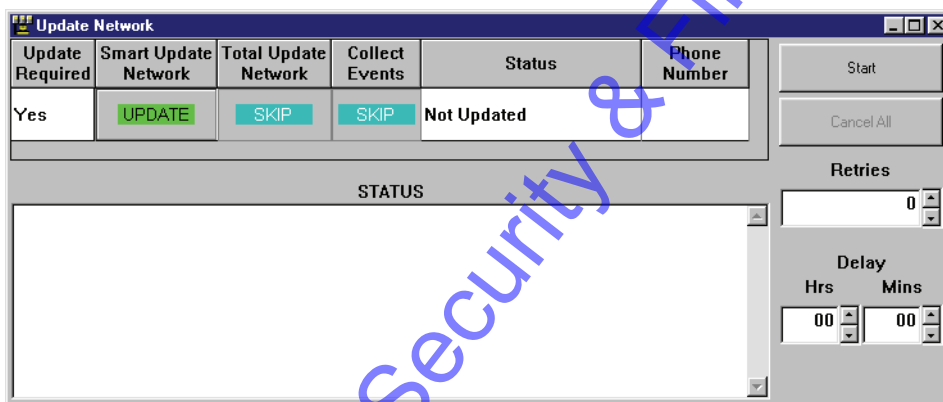

Figure 2-44: Required Network Update
1. Click on the  icon on the tool bar. The Update Network window appears. If changes have been made to the databases and the network needs to be updated, the Update Required field indicates this with a “Yes”, and the Skip/Update toggle box under the Smart Update Network field indicates “Update” (see Figure 2-44).